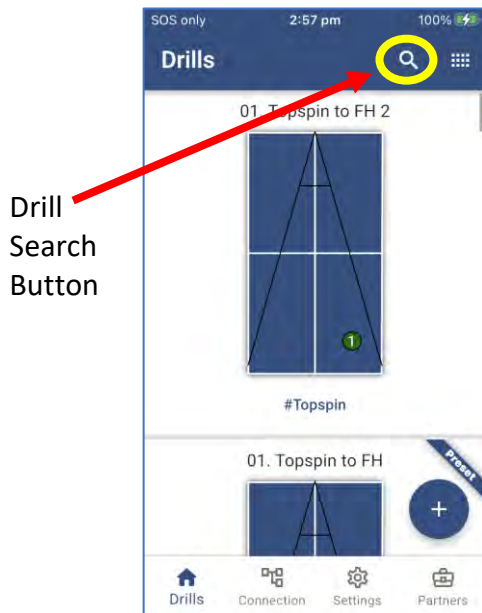

Figure 3-24
1. From the Drills main screen, press the Drill Search icon. A new window will appear for you to enter a Search string of characters. (Figure 3-24)